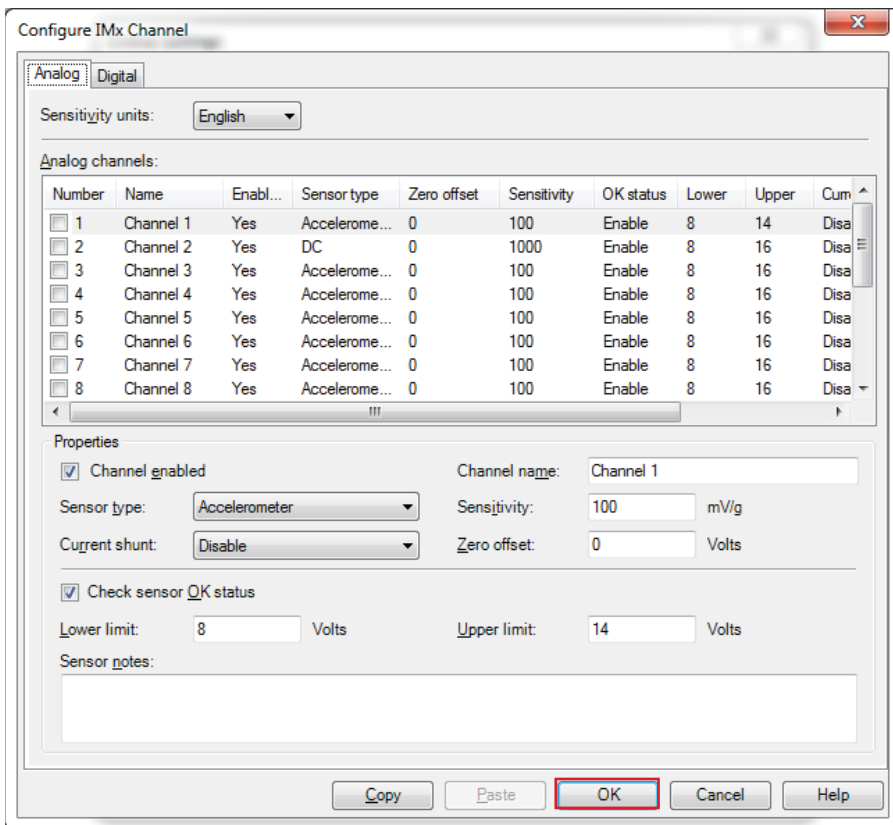

Fig. 23. Configure the channels to use.
- Configure the channels to use (→ fig. 23).